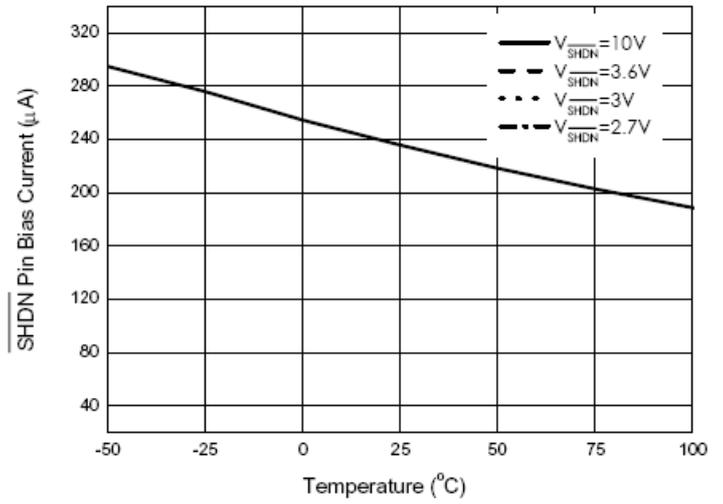

Figure 5. $\overline{\text{SHDN}}$ Pin Bias Current vs. Temperature
b. Using a DC Voltage Using a variable DC voltage to adjust the brightness is a popular method in some applications. The dimming control using a DC voltage circuit is shown in Figure 5. According to the Superposition Theorem, as the DC voltage increases, the voltage contributed to V_{FB} increases and the voltage drop on R2 decreases, i.e. the LED current decreases. For example, if the VDC range is from 0V to 2.8V, the selection of resistors in Figure 5 sets dimming control of LED current from 20mA to 0mA.